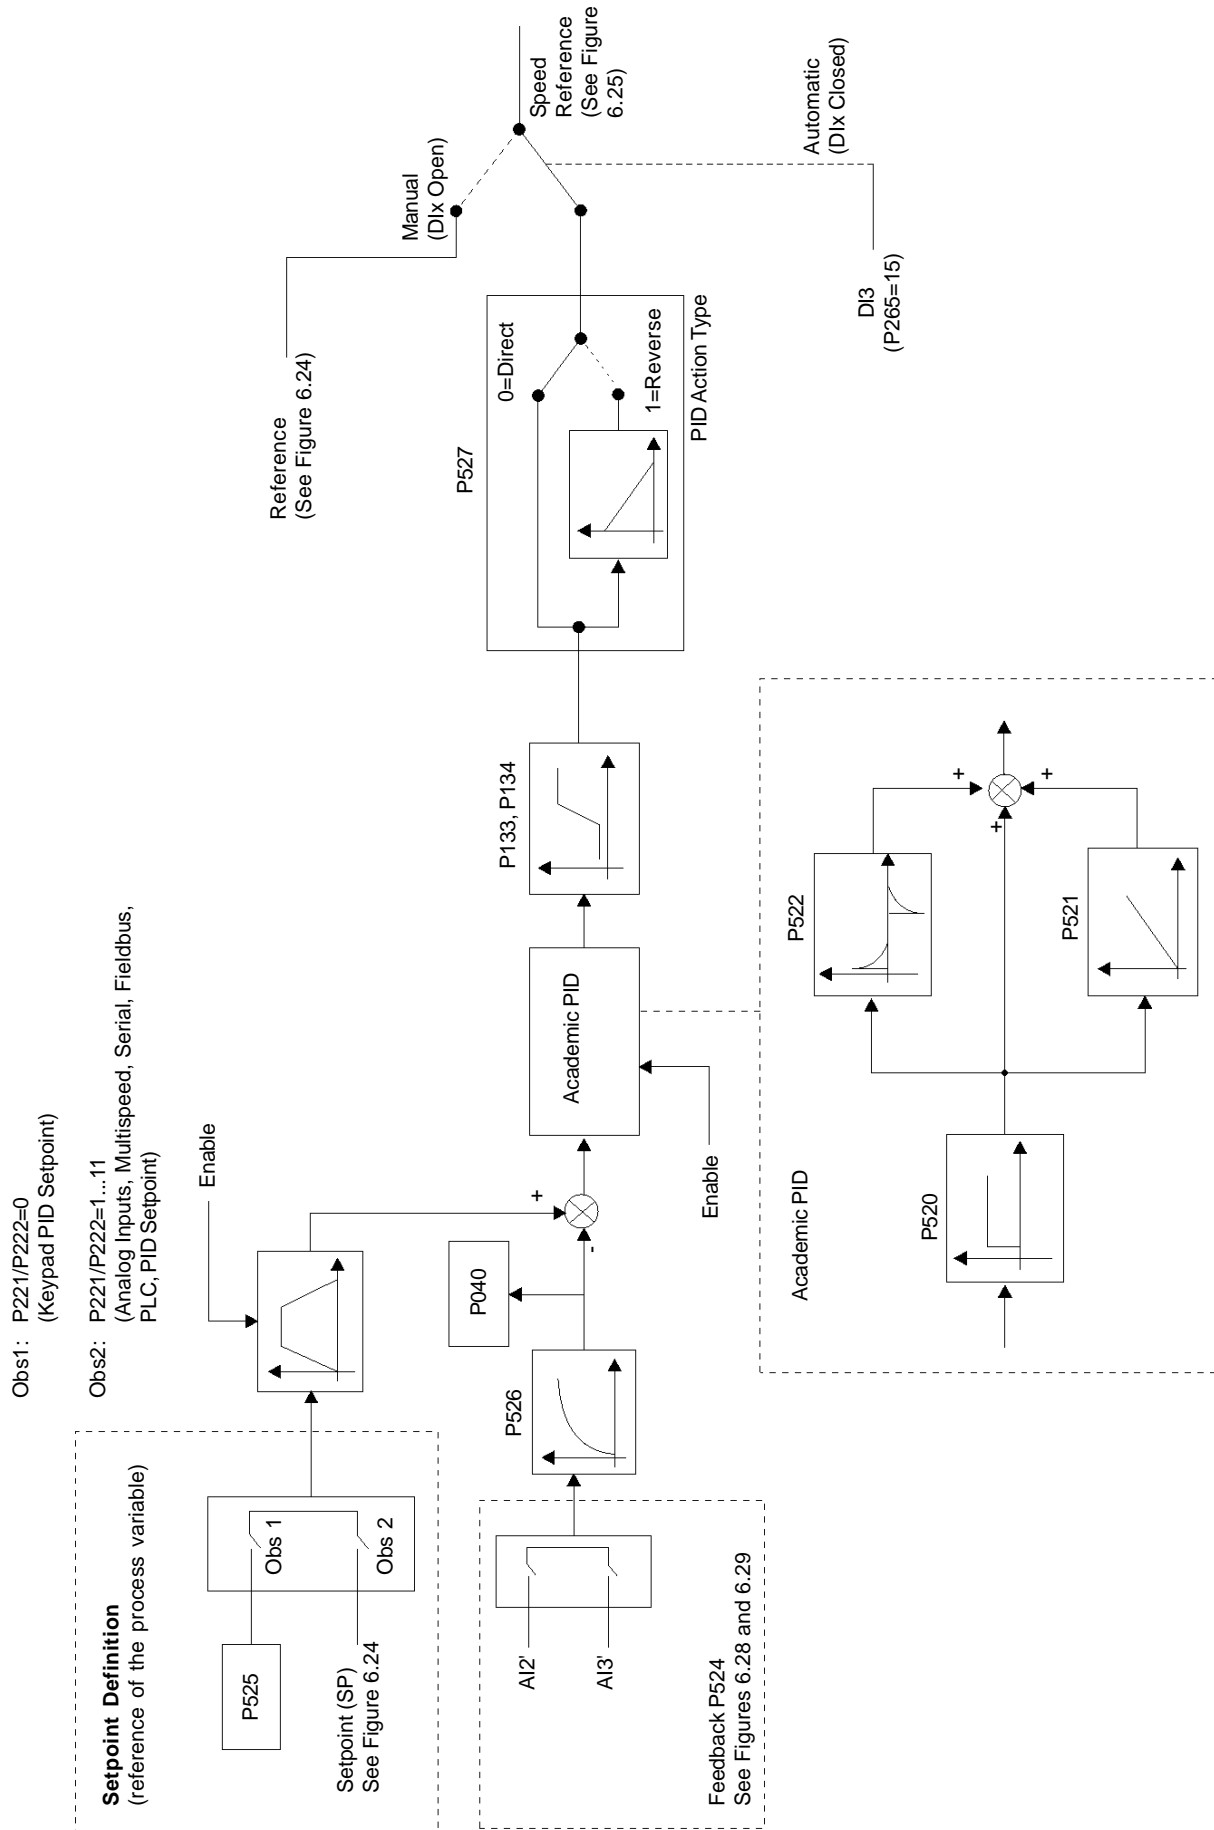

Figure 6.41 - Block diagram of the PID Regulator Function
- ☑ Figure 6.41 shows the block diagram of the Academic PID regulator.